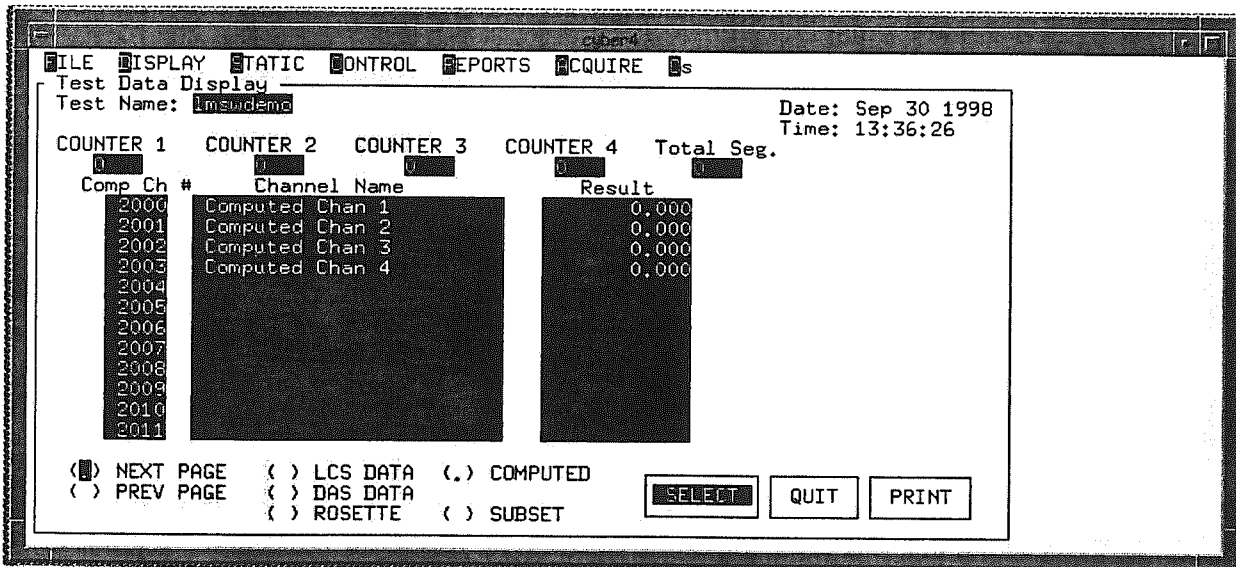

Figure 11-6. Computed Channel Test Data Display
- Step 2:** Select the **COMPUTED** radio button and press **[RETURN]**. The screen shown in Figure 11-6 is displayed.